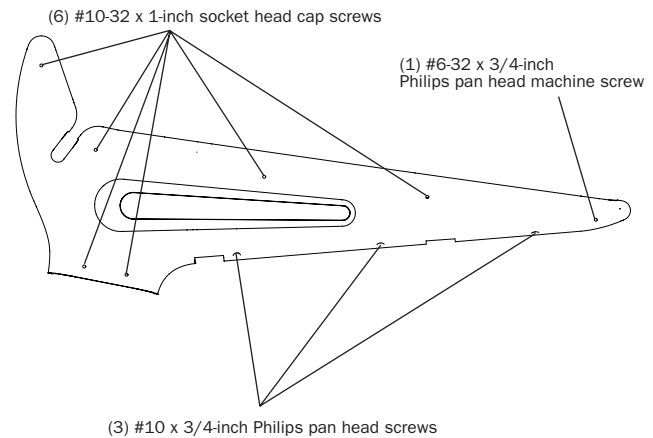

Figure 35. Attaching the plastic side caps
**4** Attach each plastic side cap with the screws indicated in Figure 35. Leave the screws loose until you have placed all of the screws, then go back and tighten all of the screws carefully.